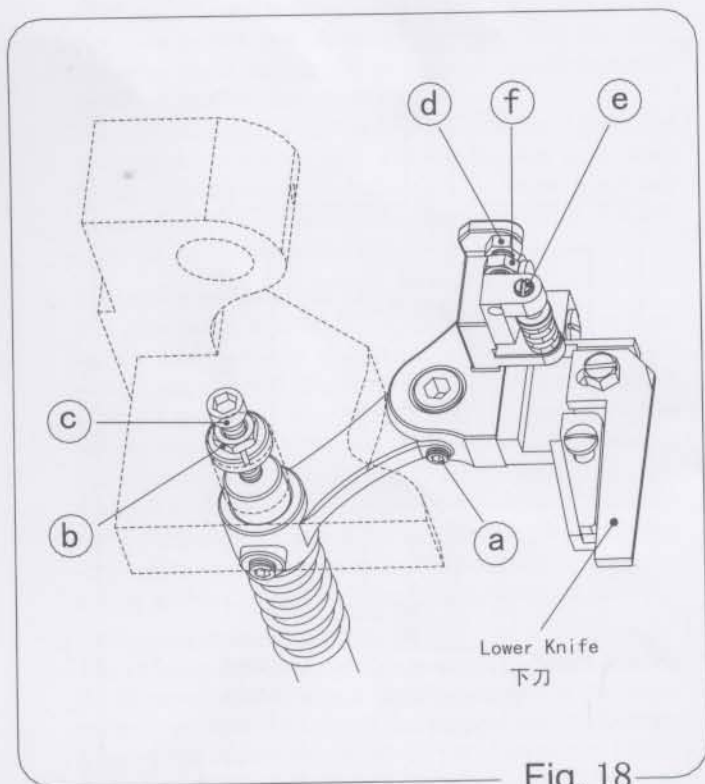

Fig. 18
- b. When you do adjustment as requirement a), (Fig.18) loosen screw (a) and (f), rotary screw (d) to make lower blade position reaches requirement a) then tighten.